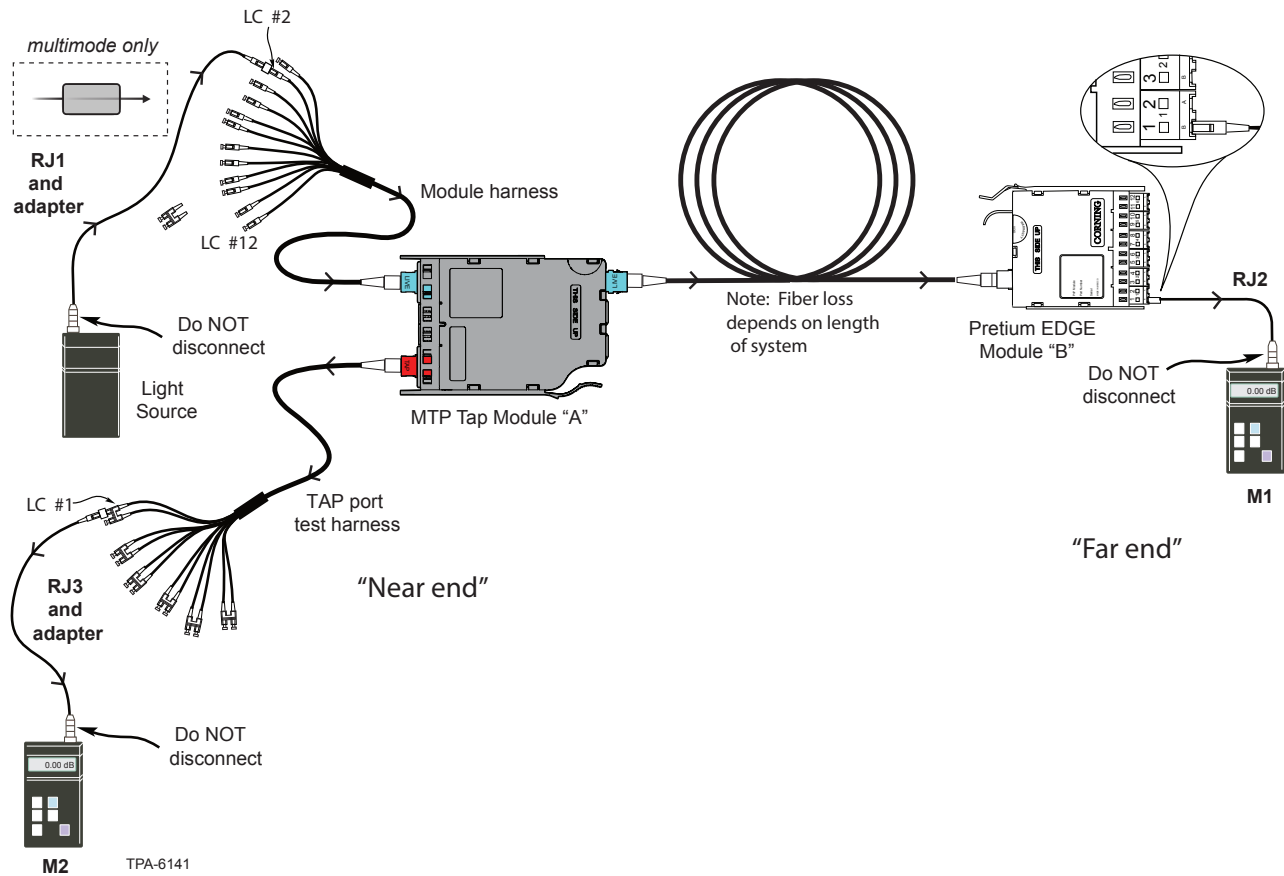

Figure 17
10.4. To test the remaining portions of the system (Figure 17):